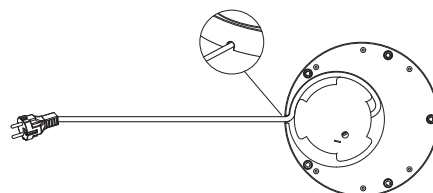

Fig. 2
- Manually unwind the cable from the cable winder and adjust it to the length needed to reach the electrical socket. (fig. 2)